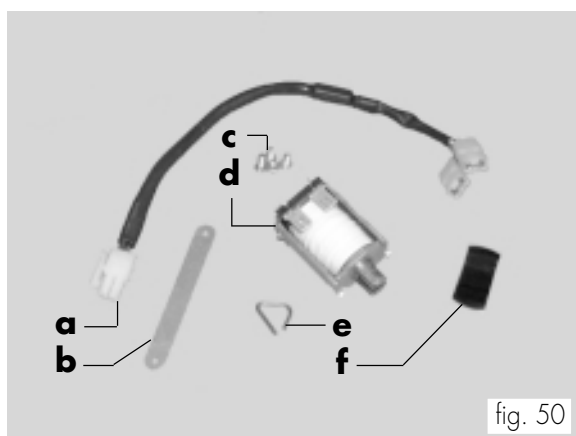

fig. 50
### Assembly kit (fig. 50)
- Install the connecting rod (ref. b, fig. 50) on the electromagnet piston (ref. d, fig. 50) by means of the spring (ref. e, fig. 50) to obtain the unit shown in fig. 53.
- Apply the sticker (ref. f, fig. 50) to the electromagnet (fig. 54) in order to seal the hole located on the machine housing.
- Assemble this unit (see fig. 54) on the sugar channel (fig. 55) by means of two M3x6 screws (ref. c, fig. 50).
- Fasten the connecting rod on the sugar door (fig. 56) by means of an M3x8 screw and an M3 nut (ref. c, fig. 50).
- Couple the connector (ref. a, fig. 50) with the electromagnet by means of the fastons. Insert the other end in the connection located on the mounting plate (fig. 58).